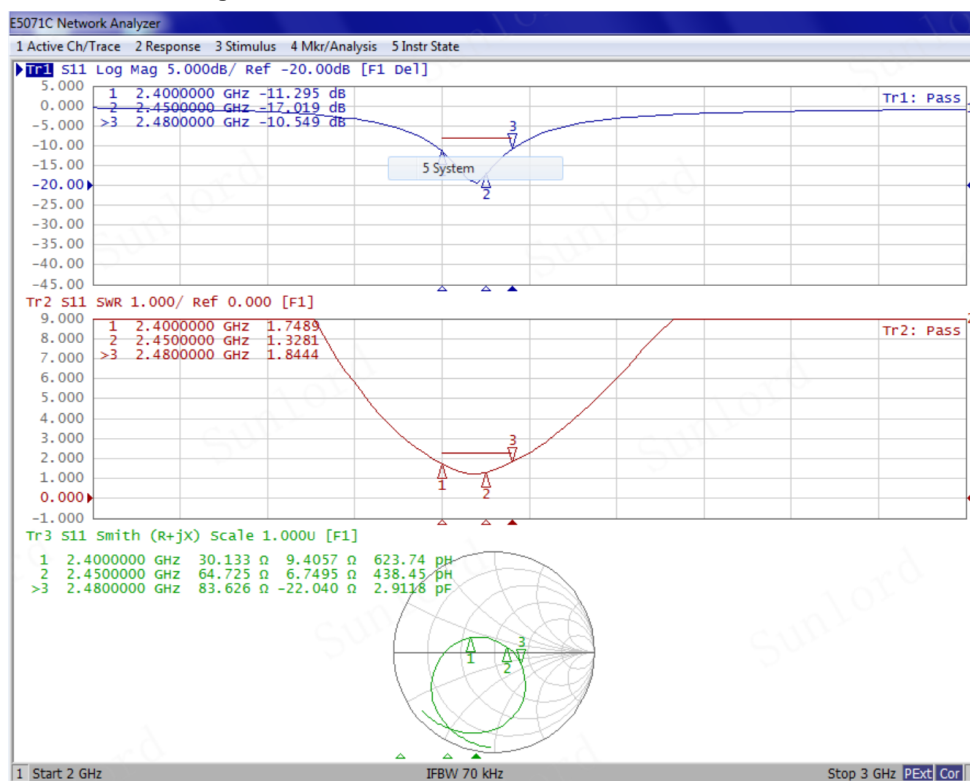

Fig. 3-1
- d) Electrical Performance: See **Fig. 3-1**.